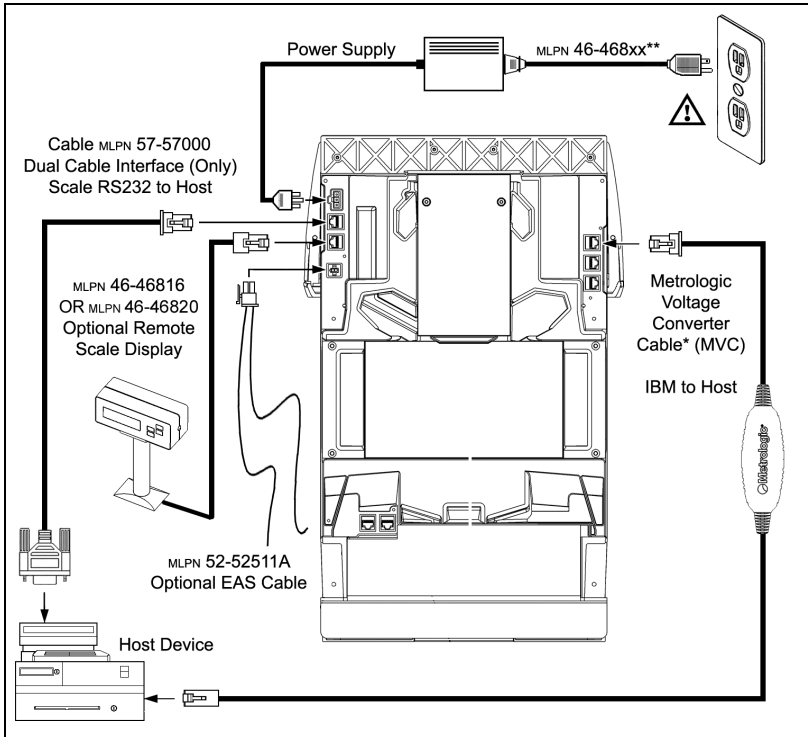

Figure 37. IBM Cable Installation Schematic
2. Connect the MVC cable to the 1st 10-pin socket on the bottom of the scanner near the serial number label. Refer to figure 37 on page 42.
Connect the scale/host cable to the 1st 10-pin socket on the bottom of the scanner next to the 3-pin Molex plug. Refer to figure 37 on page 42.